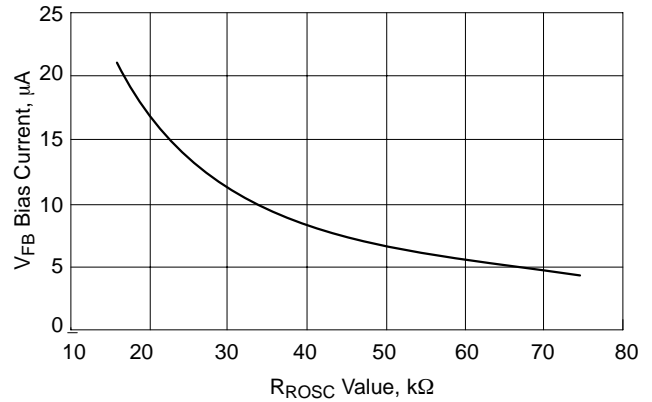

Figure 4. V_{FB} Bias Current vs. R_{ROSC} Value
- The V_{FB} Bias Current changes with the value of R_{ROSC} per Figure 4.
To set the no-load positioning, a resistor (R_9) is placed between the output voltage and V_{FB} pin. The V_{FB} bias current will develop a voltage across the resistor to decrease the output voltage. The V_{FB} bias current is dependent on the value of R_{ROSC} , as shown in Figure 4.
See Figure 4 for V_{FB} Bias Current.